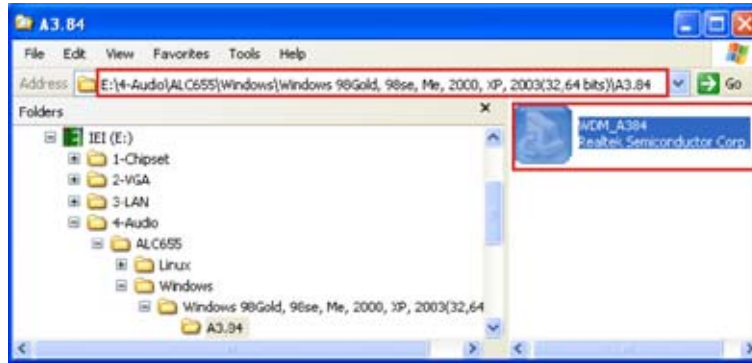

Figure 7-21: AC’97 Audio Driver Options
Step 48: Browse to “E:\4-Audio\ALC655\Windows\Windows 98Gold, 98se, Me, 2000, XP, 2003(32,64 bits)\A3.84” Figure 7-21
Step 49: Double-click the installation file in Figure 7-21.